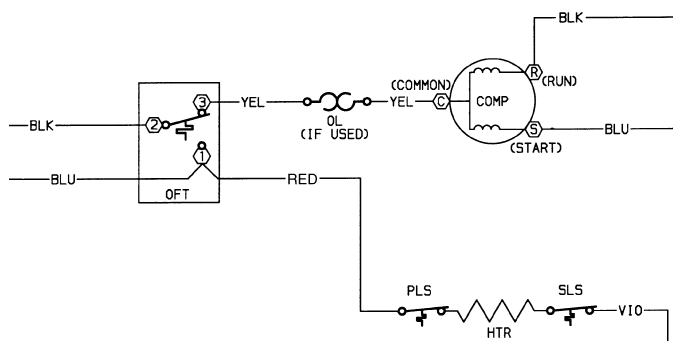

FIGURE 50A — OUTDOOR FROST THERMOSTAT (OFT) CONTACTS, ALL 52CQ, PQ UNITS WITH MOUNTED CONTROLS
■ **OUTDOOR FROST THERMOSTAT (Heat Pump Units) (Figure 50A and 50B)** — The Outdoor Frost Thermostat (OFT) is a thermostat that uses a single-pole switch with a manual override selector. The thermostat switches between electric heat and compressor operation when the temperature of the outdoor coil falls below 20 F or rises above 35 F. Switching the override selector to electric heat disables the reverse cycle operation of the thermostat and is manually switched to electric heat operation.